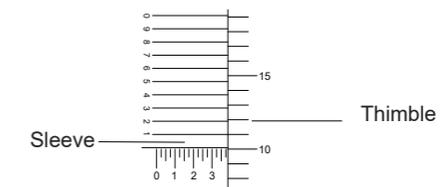

Fig.1
- If the reading is zero(or equal to the normal value of setting standard), micrometer is ready to measure. If there is a deviation, insert the wrench into the hole on the opposite side of the index line, and rotate the sleeve(Fig.1) to align the index line with thimble zero graduation line.